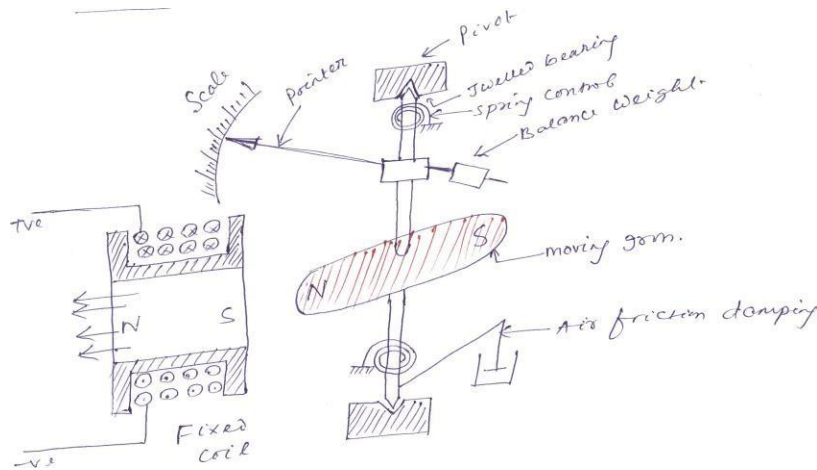

Fig. 1.10
**Construction:** The moving iron fixed to the spindle is kept near the hollow fixed coil (Fig. 1.10). The pointer and balance weight are attached to the spindle, which is supported with jeweled bearing. Here air friction damping is used.